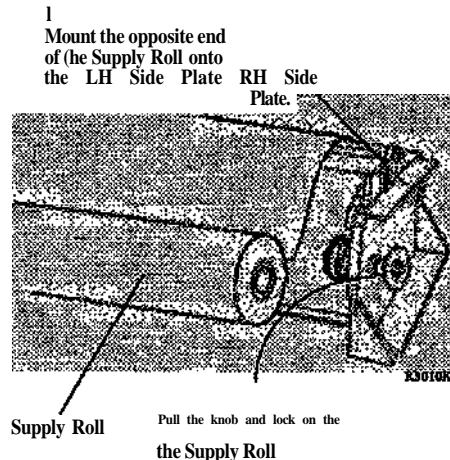

Figure 3. Reinstalling the Supply Roll
1. (Figure 3): Reinstall the Supply Roll.